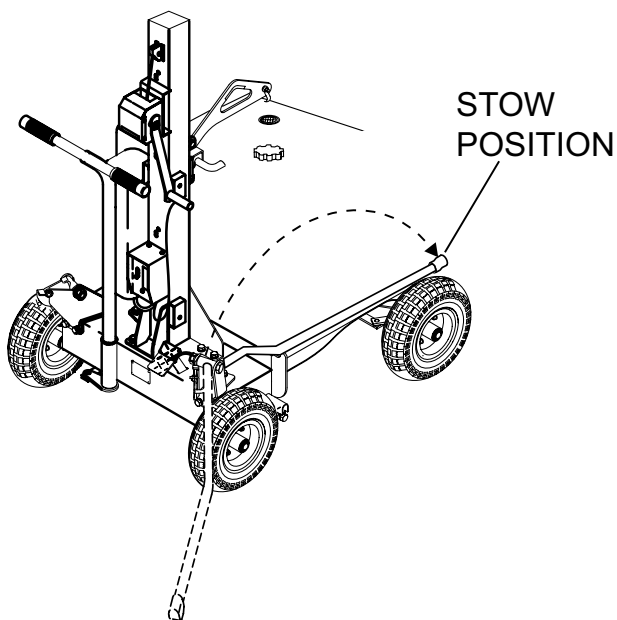

Figure 20. Outriggers (Stow Position)
7. Grab hold of outrigger, pull upward, push down and place in stow position (Figure 20).